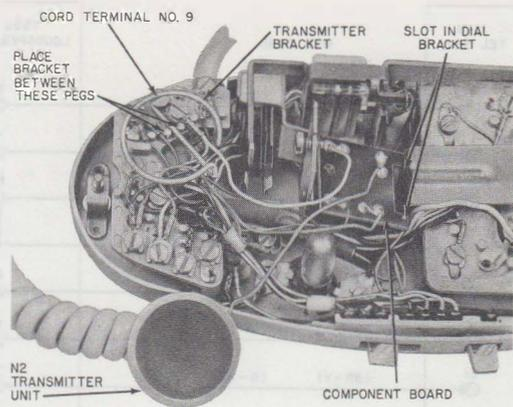

Fig. 4—664A Transmitter, Component Positioning
- (3) Install the component board of the replacement transmitter between the dial mounting bracket uprights and secure using the screw furnished. The component board is notched to fit into slots on the dial mounting bracket.
- (4) Mount the transmitter bracket on the mounting cord terminal board using one screw from terminal 9 (Fig. 4). Bracket should be placed between pegs on the terminal board as shown in Fig. 4.